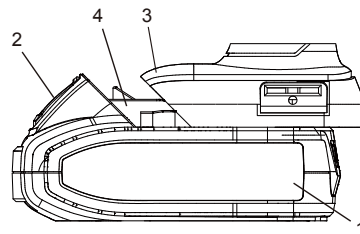

Fig. 3
- Remove the discharged battery (1) from the drill by pressing downward on the battery release button (2) and sliding the battery backward until it is removed from the drill handle (3) (Fig. 3).
- Slide the fully charged battery onto the matching keys (4) in the drill handle where the discharged battery has been removed.